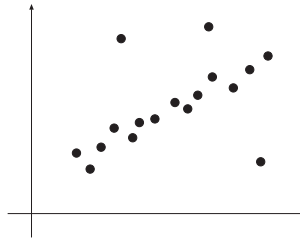

Figure 2: The points represent the measured data. There is noise and some points erroneously fall far off (they are *outliers*).
1. Suppose you have a set of points $\{\mathbf{x}_1, \mathbf{x}_2, \dots, \mathbf{x}_n\}$ that were sampled from some real-world data. For example, these could be points coming from some sensor, collected in a physical experiment, statistical data or data coming from a 3D scanner. You are a scientist that wants to perform principal component analysis on the data you collected and to find a line/hyperplane that approximates your points. However, it is known that the dataset contains *noise* and *outliers* – some points might be far off (see Figure 2). How do errors in the samples affect the result of the PCA? (Hint: outliers will confuse/divert the PCA. Explain why, based on the quadratic expression that PCA minimizes.)